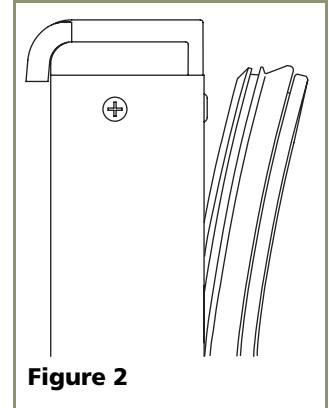

Figure 2
2. Pull door gasket out of groove (top edge of door only). Start in the middle and pull outward, moving toward the edge (see **Figure 2**). This may take some force.